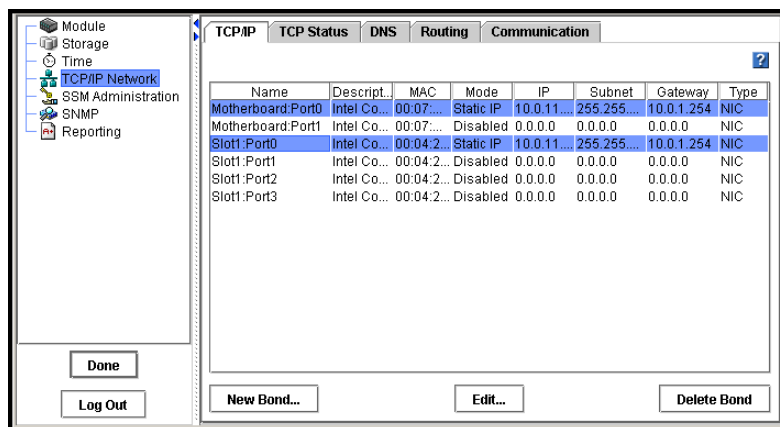

Figure 79. Selecting Motherboard:Port0 and Slot1:Port0 for a New Bond
3. On the TCP/IP tab, shown in Figure 79, select 2 or 4 NICs to bond.